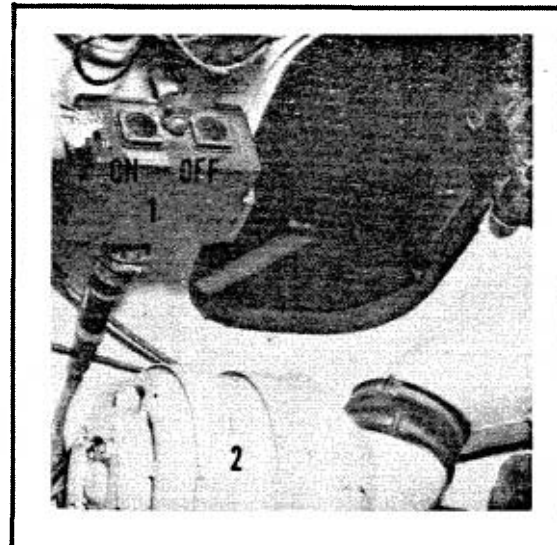

FIG. 3-56. EJECTION PORT OPEN
k. Turret Ventilator (Fig. 3-56). The turret ventilator is located in the Tank Commander's area, but the "ON-OFF" control box is located near the ejector port, within reach of the loader. It should be turned on to remove gases and smoke from the turret compartment.